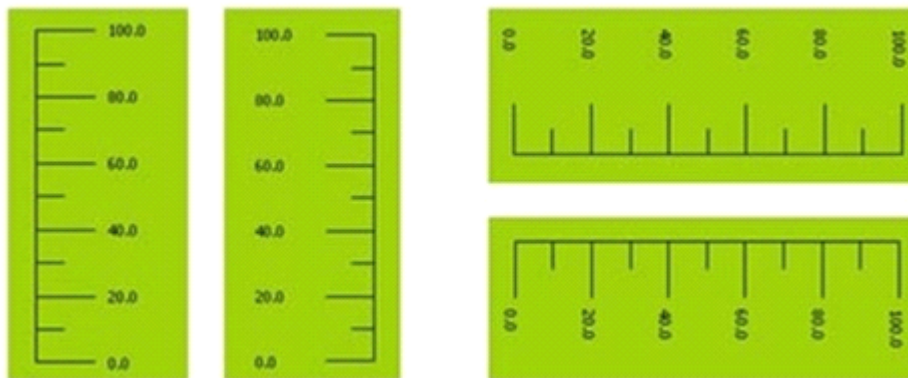

Figure 4-48: An example of a scale drawn
- After modifying the scale properties, click OK button to close the dialog. Then, in the picture editing window the mouse will become . Move the mouse to a position where the scale will be displayed, left click the mouse and drag it to another appropriate position before left clicking again. The system will automatically draw a scale. See Figure 4-48.